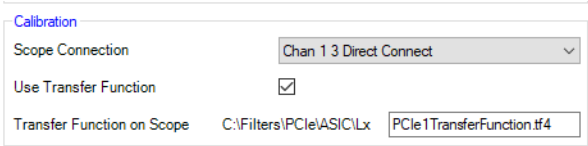

Figure 26 Calibration for CEM and ASIC 2.5 GT/s – 5.0 GT/s
- Use Transfer Function: On selecting the **Use Transfer Function** check box, adds one more option (see Figure 26). It allows to embed or de-embed the calibration boards, fixtures or additional cables using the transfer function in the scope.